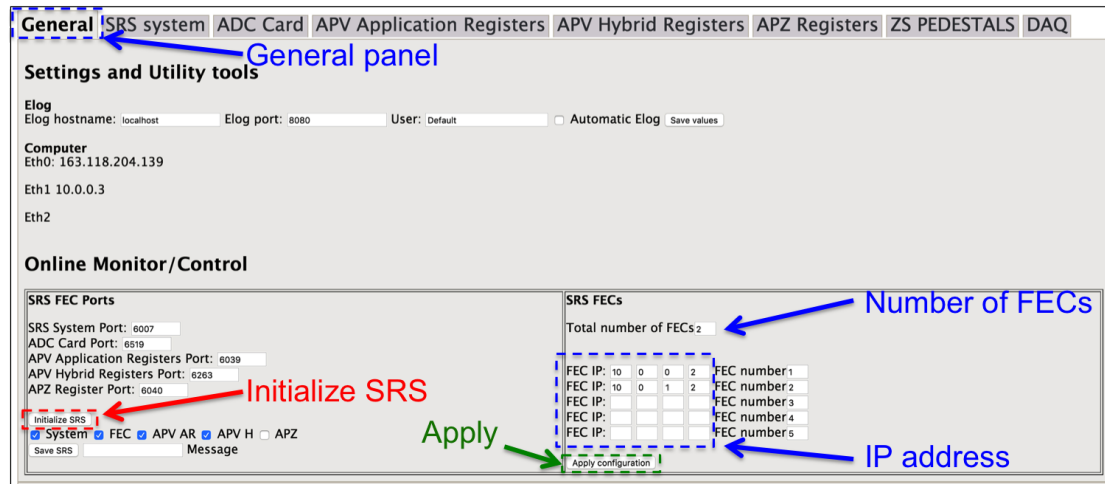

Figure 5.22: QC5 SCRIBE general panel.
6. In the General control panel (see Fig. 5.22), set the number of FEC to 2 and indicate their IP addresses (by default 10.0.0.2 for FEC 1 and 10.0.1.2 for FEC 2). Leave all the other parameters with the default values. Apply the new configuration and then start the initialization of the SRS system.